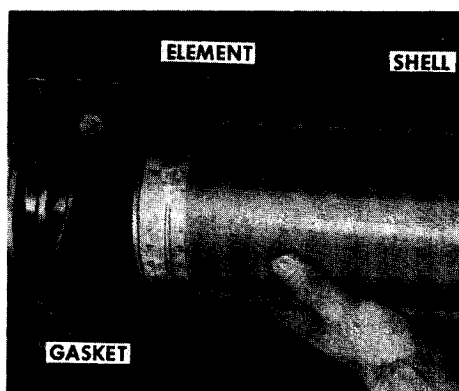

Figure 7
2. Pull the contaminated element out of the shell, Figure 7, and flush the shell and filter base with clean fuel.
3. Install a new Case Filter Element on the bolt. Be sure the element is installed as shown in Figure 7, and **BE CAREFUL** not to push the rubber grommet seal out of the element, Figure 7.
4. Install the new gasket provided with the element, Figure 7.